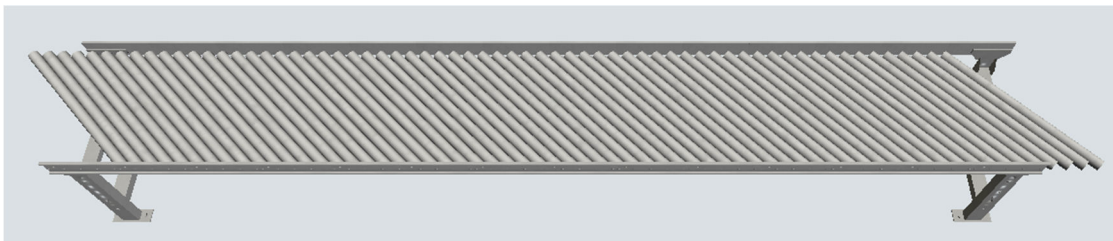

Fig. 3 Conveyor rollers set at a 45-degree angle
6. **Roller Skew Angle** – ability to set the roller rotation angle to a given value (Fig. 3).